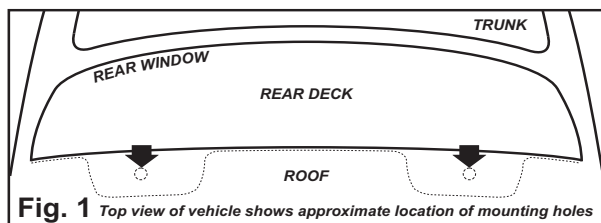

Fig. 1 Top view of vehicle shows approximate location of mounting holes
1. Lower the rear section of the headliner and locate the 2 existing holes in the vehicle roof shown in Figs. 1 & 2.